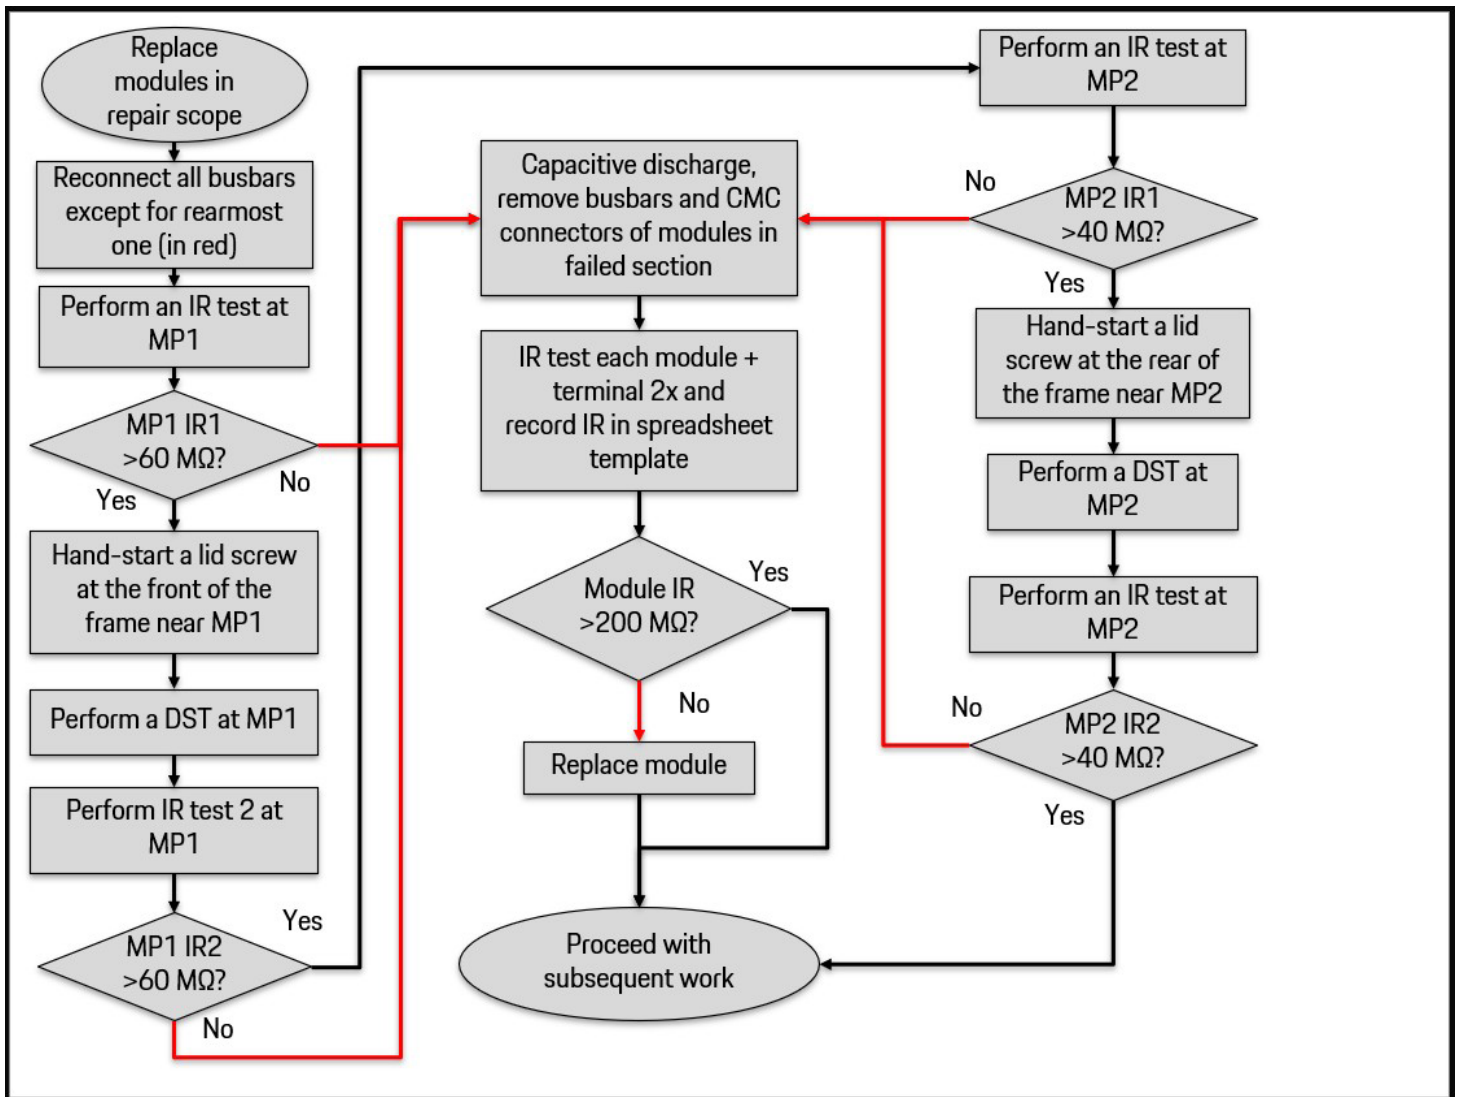

Figure 2 - 28-module Flowchart
- ▷ Repair scopes in only the upper "T" section require an initial DST (in addition to the points in *figure 2*) at the mid-pack fuse as shown in step 3.9.3 of Safety test after assembly work on the high-voltage battery with 33 modules in WM 270803A5. Only proceed with removing lower lid if this initial DST fails.